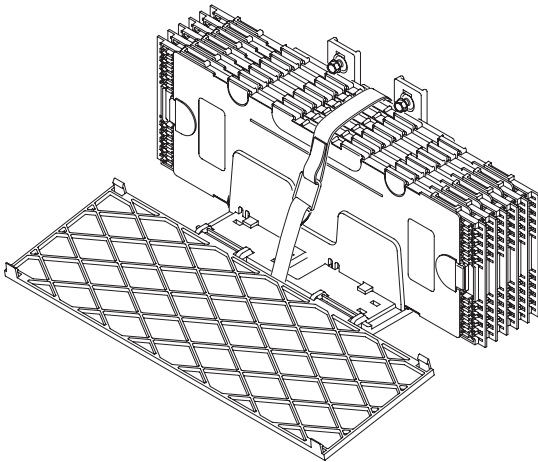

FIGURE 16—Secure Splice Trays with Velcro Strap.
- 9.06** After all splicing is complete and the trays are stored into the divider slots, secure to closure using provided Velcro strap as indicated in Figure 16.